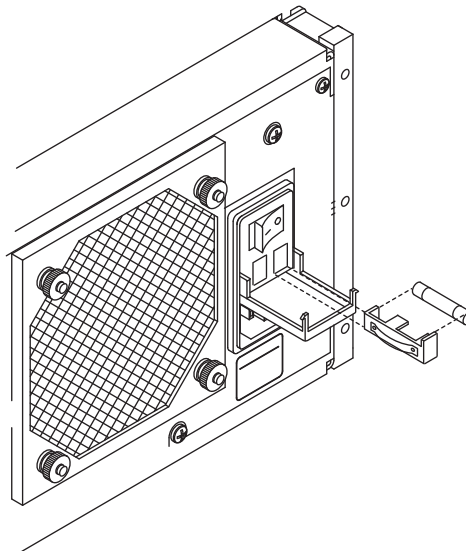

Figure 6-1. Replacing the Line Fuse
- If a fuse is defective, replace (see Figure 6-1 on page 6-10)
2. Using a small flat-blade screwdriver, carefully pry under the tab next to the rear panel power switch to open the cover and gain access to the fuse holders (Figure 6-1).